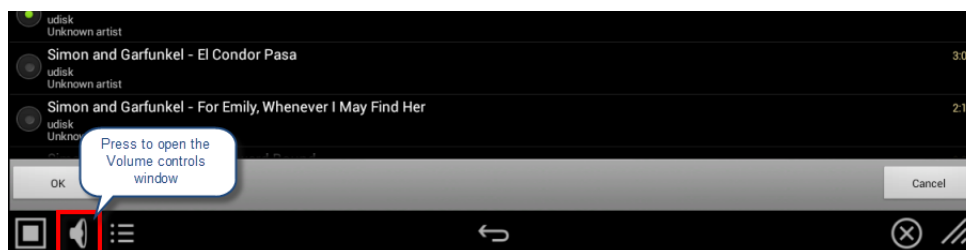
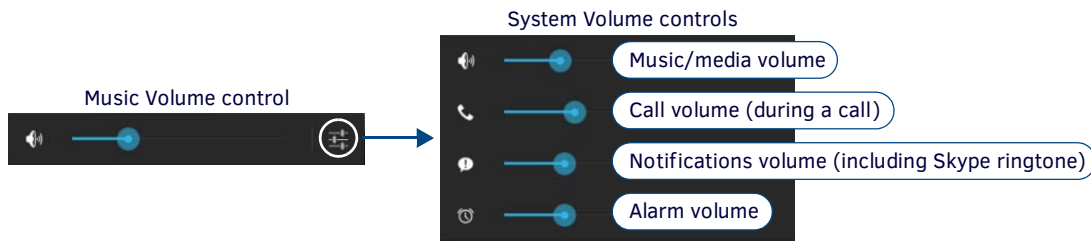

FIG. 20 DEVICE - Sound page - Volume Control icon
FIG. 21 Music Volume control and System Volumes control
- In the *Sound* page, select the *Volume* icon (FIG. 20) to open the *Music Volumes* control window (FIG. 21 on page 30):
- Press the icon on the right side of the *Music Volume* control to open the *System Volumes* control. Use these volume controls to adjust all of the available volume controls on the panel (FIG. 21):